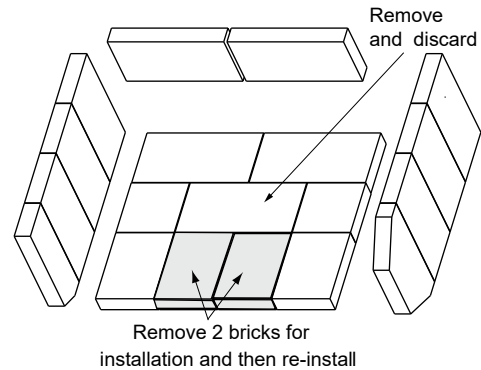

Figure 18.2
2. Remove the 2 bricks in the front most part of the firebox (**Figure 18.2**).
1. Replace front bricks that were removed in step 1 of Begin installing the ARS System on **page 18 (Figure 18.2)**.